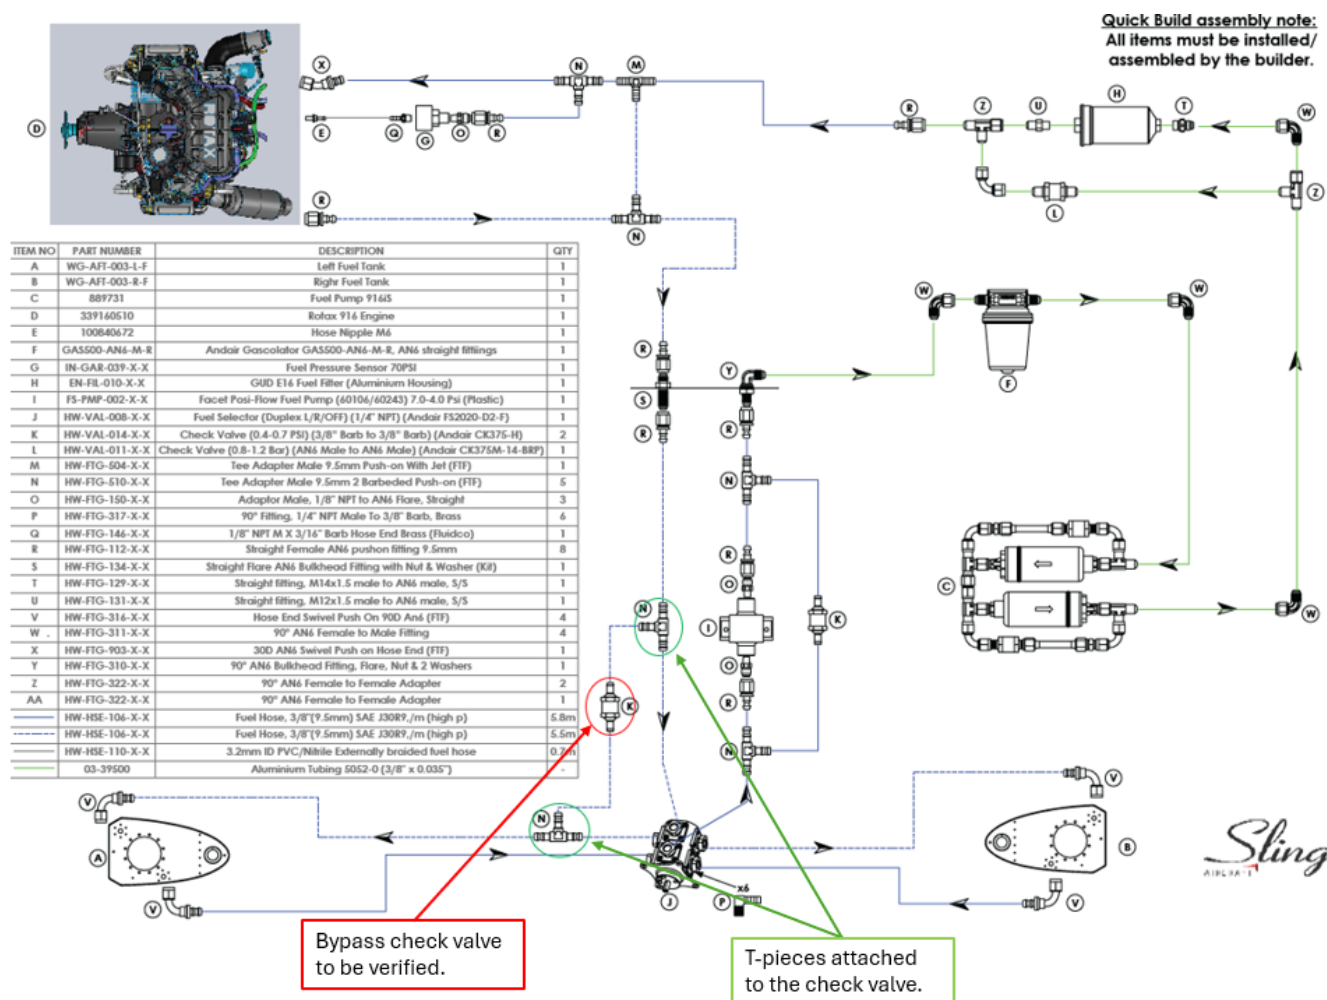

Figure 3: Bypass check valve across the fuel selector and the associated T-pieces.
This Service Bulletin mandates an inspection of the fuel system to verify the type of check valves installed in the fuel return line across the fuel selector. A low-pressure check valve found in the area circled on Figure 3 and Figure 8 must be removed and replaced with the approved high-pressure check valve. The purpose of this bulletin is to restore compliance with Rotax requirements, ensure correct fuel return behaviour and maintain safe and reliable engine operation. Refer to Figure 1 for differences between the low- and high-pressure check valves.
- Step 2: Examine the return line to confirm if there is a check valve installed on the return line. Refer to Figure 3 for where the valve is located on the schematic. This will be visible by having a T-piece in the return line which branches with one end going to the selector and the other going directly to a fuel tank return line.